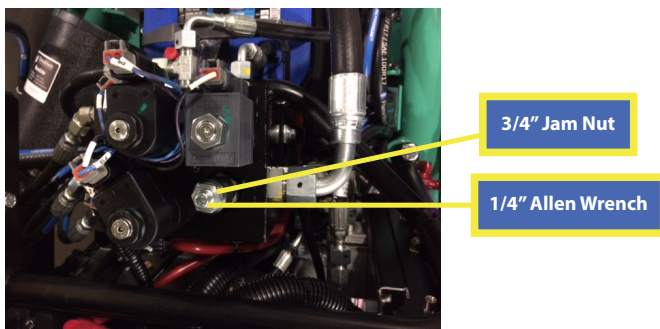

Figure 35. Pitch Pressure Adjustment
2. Loosen 3/4" jam nut on pitch relief valve (Figure 35).